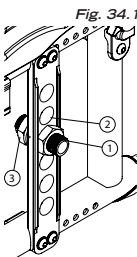

Fig. 34.1
- Remove the nut (3) holding the axle bushing.
- Move axle bushing (1) (Fig. 34.1) along mounting plate (2).
- Reinstall the bushing in the desired mounting hole and tighten the nut (3).